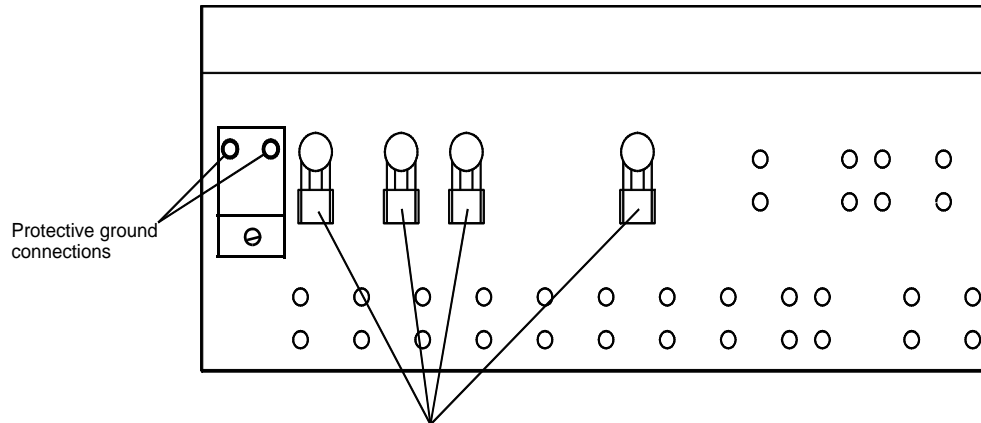
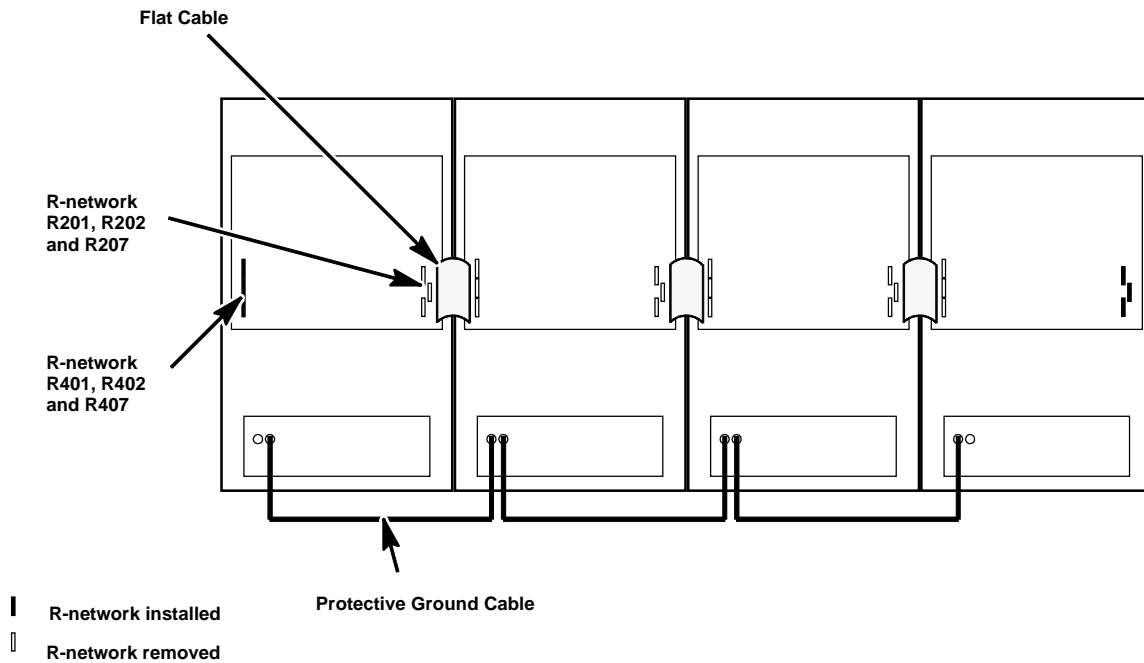

Fig. 4-8 Ground Plate
Fig. 4-9 Example of Interconnecting the System Bus and the Ground Plates
1. Connect the protective ground to the ground terminal screw lug on the ground strip (see Figure 4-8) of one of the cabinets, using a #10-#12 gauge wire ground cable.
After the Modular Cabinets have been mounted to the wall, the backplanes of the cabinets have to be interconnected using the flat ribbon cable from the interconnection set, NTMNB 101 105 (see Figure 4-9). Install one end of the cable in one of the cabinets. Feed the other end of the cable through the sides of the cabinets and insert it into the connector on the back plane. Make sure the connector's latch closes.
Ensure that an earth ground has been run to cabinet #1 (see Figure 4-8). Take the green/yellow ground cable from the interconnection set and connect the cable from the ground plate of the first cabinet to the ground plate of the second cabinet. Continue connecting the ground cables to the third and fourth cabinets as they are installed (see Figure 4-9).
The system bus on the backplane is terminated on both sides with R-networks in a SIL socket. When the Modular Cabinets are connected together, R-networks must be present only at both ends of the extended bus (see Figure 4-9).
See Figure 4-9.
- Locate the (3) termination resistors, R401, R402, and R407 on the backplane. Refer to Figures 4-9 and 4-10. With a pair of needle nose pliers pull the resistor packs up off the sockets on the backplane. DO THIS CAREFULLY. Save the resistors.
- Remove the (3) termination resistors, R201, R202, and R207, from the right hand side of the backplane. Refer to Figures 4-9 and 4-10. DO THIS CAREFULLY. Save the resistors.